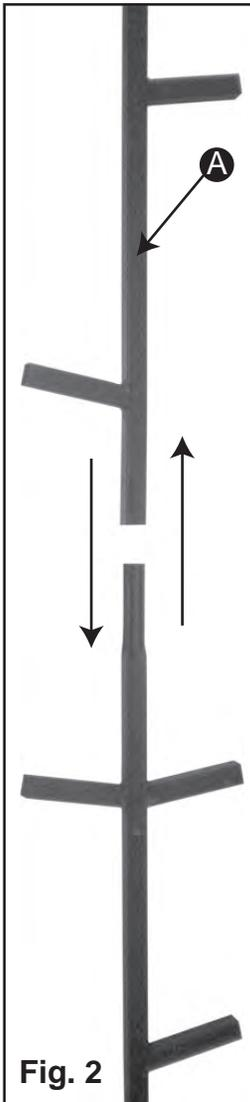
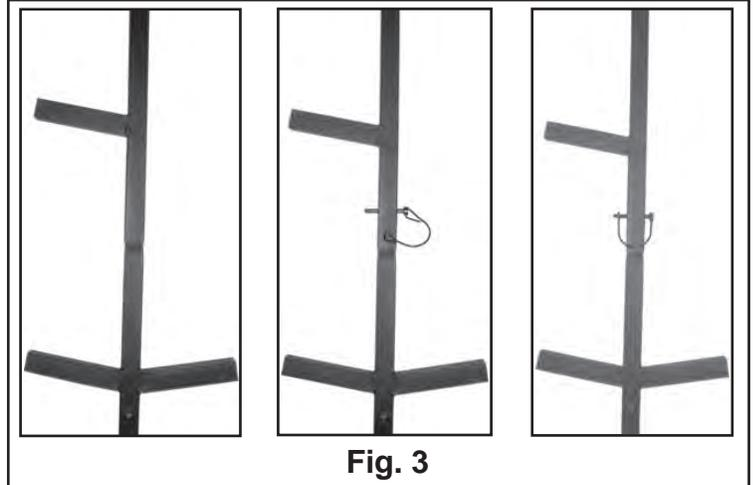

Fig. 2
Fig. 3
2. With the help of at least **TWO** other people, lower your assembled stick ladder to the ground. Lay your current stick ladder on the ground and insert the extension between the middle ladder sections of your stick ladder. **(See Fig. 2)** Insert **1-Quickclip** into the new section at the insertion point. **(See Fig. 3)**